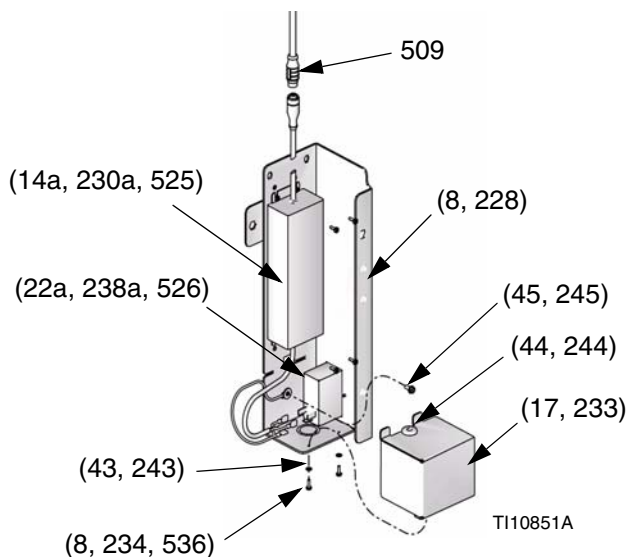

FIG. 42
- Install power supply output cable to CAN cable (509). See FIG. 42.
- Connect brown wire to Line (L).
- Connect blue wire to Neutral (N).
- Install front and back shrouding covers (6, 7), retainers (504), and screws (503). See DataTrak Kit parts illustration on page 51.